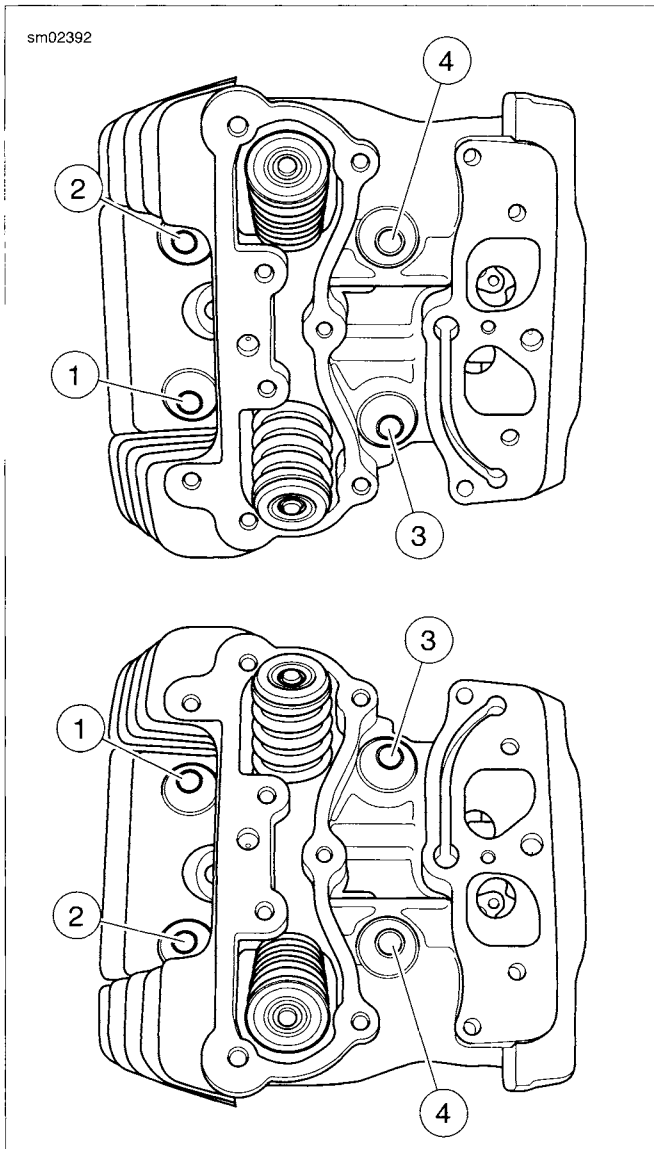

Figure 3-25. 1/4 Turn Head Bolts in Sequence
3. See Figure 3-25. Remove cylinder head bolts.